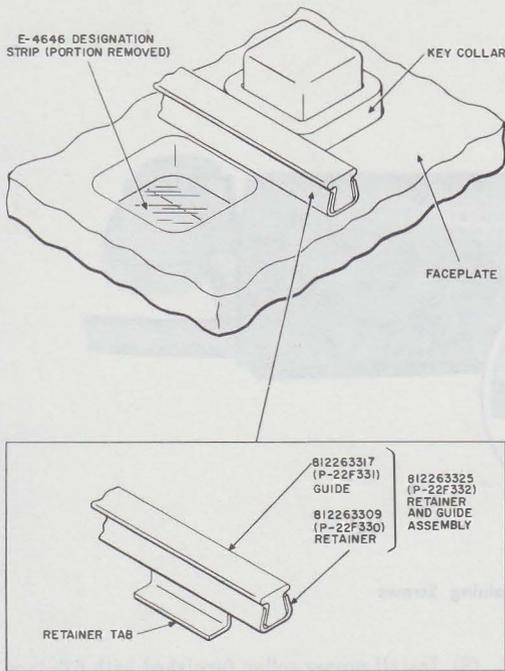

Fig. 4—812263325 (P-22F332) Retainer and Guide Assembly—Enlarged Cutaway End View
- (1) Insert the clear plastic guide 812263317 (P-22F331) in retainer 812263309 (P-22F330).
- (2) Remove faceplate.
- (3) Remove designation strip and trim off a portion covering the lamps adjacent to key collars.
- (4) Insert retainer tabs in key holes in faceplate.
- (5) Engage tabs to the left side of key opening so that the retainer tabs contact the bottom surface and the retainer base rests on the top surface of the faceplate (Fig. 4).
- (6) Replace the trimmed designation strip and faceplate.